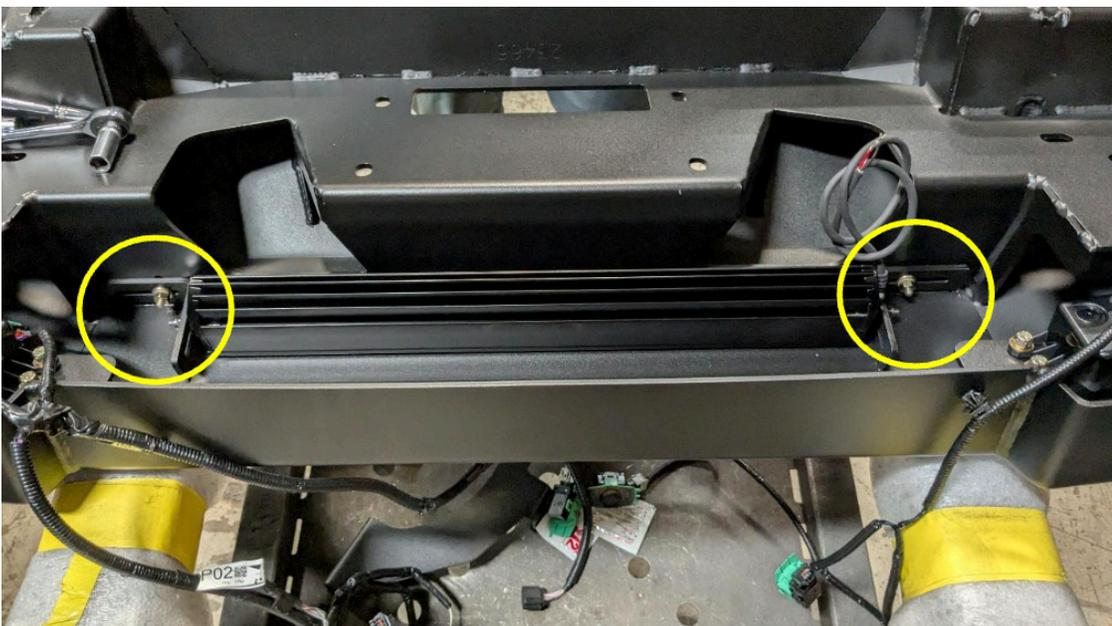

Figure 51
37. If installing a lightbar, do so now using the two (2) provided "L" brackets (Part#: 21871-10) and two (2) provided 1/4" hex head cap screws, flat washers, and nylock nuts. (Figure 51)